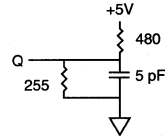

Fig. 2 OUTPUT LOAD EQUIVALENT
- t1HZCE, t1HZWE and t1HZOE are specified with CL = 5pF as in Fig. 2. Transition is measured ± 500mV from steady state voltage.